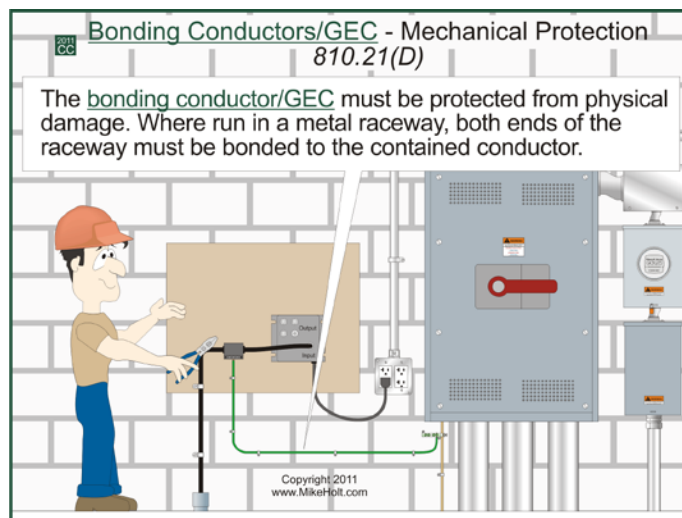

Figure 810-12
(D) Mechanical Protection. The bonding conductor or grounding electrode conductor must be mechanically protected where subject to physical damage, and where installed in a metal raceway both ends of the raceway must be bonded to the bonding conductor or grounding electrode conductor. **Figure 810-12**